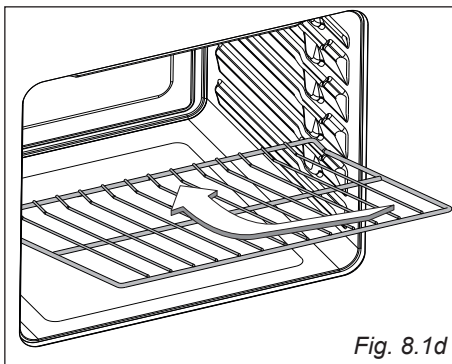

Fig. 8.1d
- The oven shelf is provided with a security block to prevent accidental extraction. It must be inserted operating as per figure 8.1d.